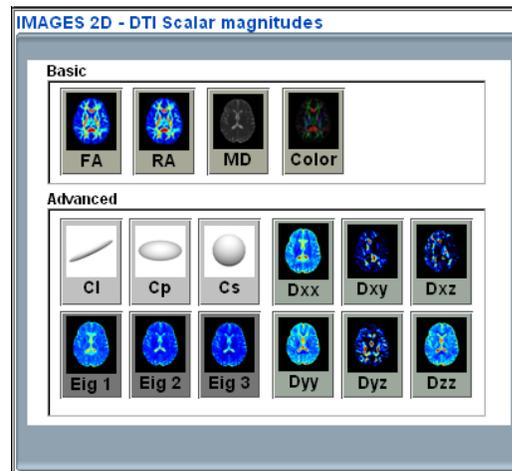

Figure 12: Scalar magnitudes control panel
The scalar magnitudes that can be derived from DTI data available in *Saturn*, are controlled from the panel shown in figure 12. These are: Fractional Anisotropy (FA), Relative Anisotropy (RA), Mean Diffusivity (MD), Color by Orientation, Geometric Coefficients, linear (C_l), planar (C_p), and spherical (C_s), eigenvalues ordered from high to low: major (Eig 1), middle (Eig 2) and minor (Eig 3), and tensor components: D_{xx} , D_{xy} , D_{xz} , D_{yy} , D_{yz} , and D_{zz} . Representing the tensor \mathbf{D} as a positive semidefinite 3x3 matrix, there exist only six independent components: